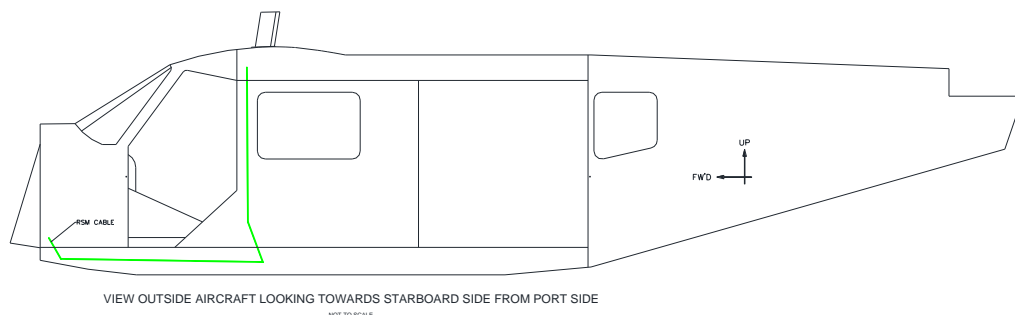

Figure 9: RSM Cable Routing - Fuselage
- 3.8. Route the fuselage portion of the RSM cable along with the main fuselage loom on the port side of the aircraft as shown in Figure 9. Run cable across to the starboard side through existing holes in the roof ribs.